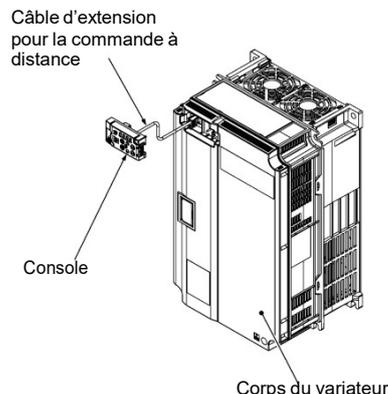

Figure 13.1-3
- Commande manuelle à distance (cf. Figure 13.1-3)